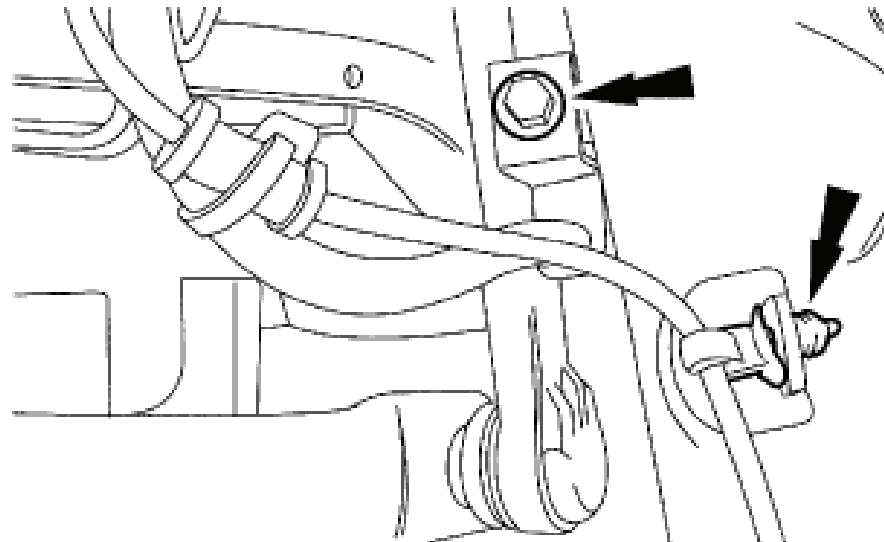

fig. 2
1. Remove the bolt from the brake line tab and release brake line from the strut (fig. 2).
2. Unclip the sensor wire from the strut (fig. 2).